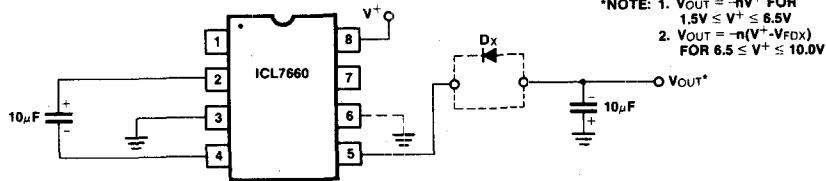
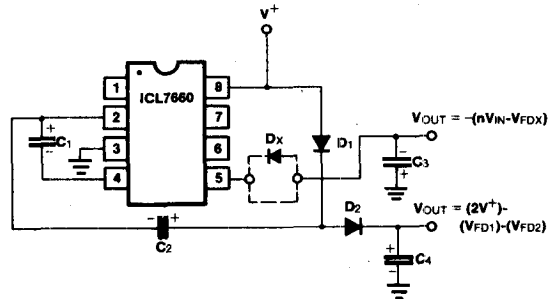

Figure 4: Simple Negative Converter
Figure 10: Combined Negative Converter and Positive Multiplier
The majority of applications will undoubtedly utilize the ICL7660 for generation of negative supply voltages. Figure 4 shows typical connections to provide a negative supply where a positive supply is available. A similar scheme may be employed for supply voltages anywhere in the operating range of +1.5V to +10.0 volts, keeping in mind that pin 6 (LV) is tied to the supply negative (GND) only for supply voltages below 3.5 volts, and that diode Dx must be included for proper operation at higher voltages and/or elevated temperatures.
The output characteristics of the circuit in Figure 4 are those of a nearly ideal voltage source in series with 70 ohms. Thus for a load current of -10mA and a supply voltage of +5 volts, the output voltage will be -4.3 volts. The dynamic output impedance due to the capacitor impedances is  $1/\omega C$  where
Figure 10 combines the functions shown in Figures 4 and 9 to provide negative voltage conversion and positive voltage multiplication simultaneously. This approach would be, for example, suitable for generating +9 volts and -5 volts from an existing +5 volt supply. In this instance capacitors C1 and C3 perform the pump and reservoir functions respectively for the generation of the negative voltage, while capacitors C2 and C4 are pump and reservoir respectively for the multiplied positive voltage. There is a penalty in this configuration which combines both functions, however, in that the source impedances of the generated supplies will be somewhat higher due to the finite impedance of the common charge pump driver at pin 2 of the device.